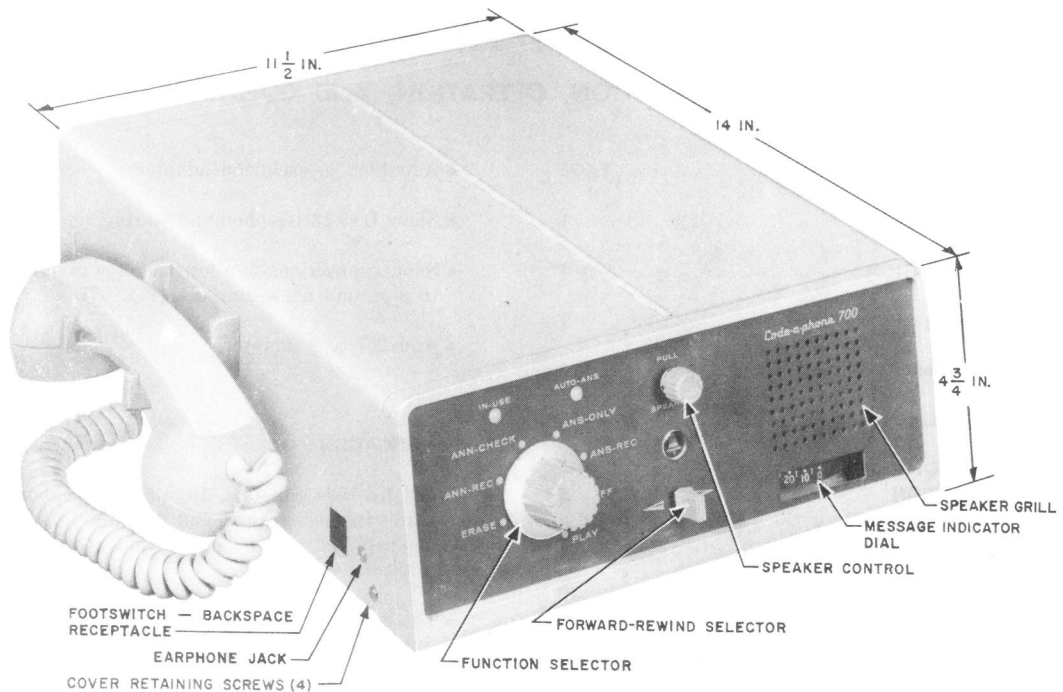

Fig. 1—KS-19245, List 1 (MD) Telephone Answering Set
1.01 This section contains information on the KS-19245, List 1 (MD) (Fig. 1), List 13 (MD), and List 24 (Fig. 2) telephone answering set.
2.01 The KS-19245, Lists 1, 13, and 24 telephone answering sets (Fig. 1 and 2) are automatic answering sets for either answer and record, or answer only service.
- Housed in a metal case. The cover has a light olive gray textured finish and the front panel has a blue-gray enamel finish. Dimensions of the Lists 1, 13, and 24 sets are shown on Fig. 1. Weight of List 1 set is 31 pounds and Lists 13 and 24 sets is 24 pounds.